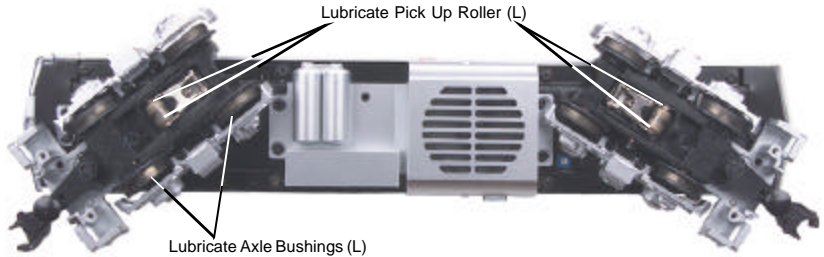
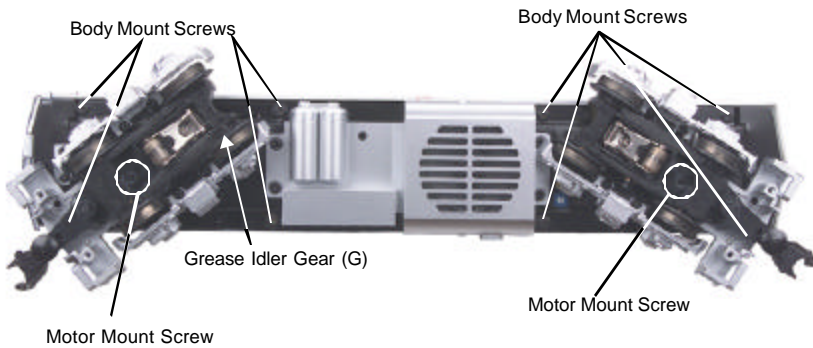

Figure 2. Lubrication Points on the Engine
Figure 3. Body Mount Screws and Greasing Points.
Although the engine was lubricated at the factory, it is important that you lubricate the chassis before operation. Lightly grease the outside idler and drive gears marked “G” in Fig. 3 on page 9 to prevent them from squeaking. Use light household oil and follow the lubrication points marked “L” in Fig. 2 on page 8. Do not over-oil. Use only a drop or two on each pivot point.
You should regularly lubricate all outside idler gears and pickup rollers to prevent them from squeaking. Use light household oil and follow the lubrication points marked “L” in Fig. 2. Do not over oil. Use only a drop or two on each pivot point.
1. Remove the Phillips screws from the chassis, as seen in Figure 3, then lift the body away from the chassis.
2. Remove the truck blocks from the chassis by unscrewing the black Phillips motor mount screw on the bottom of each truck block, as shown in Figure 3.
It is also a good idea to lubricate the outside truck block idler and drive gears with grease occasionally. Add grease to the points marked with “G” in Figure 3.